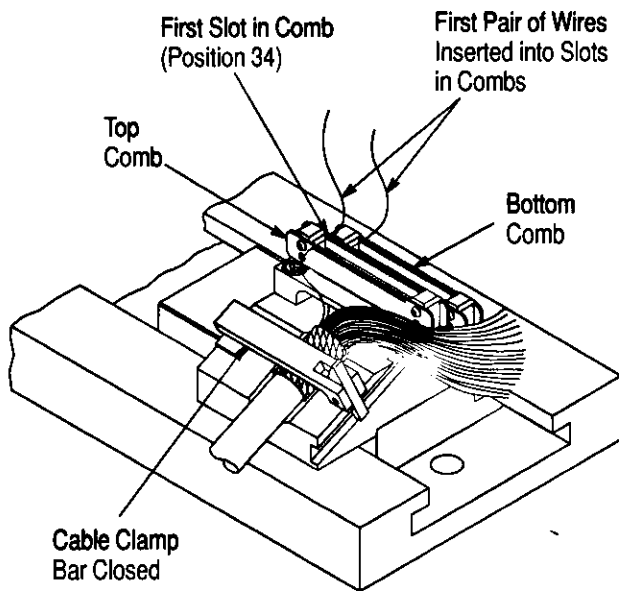

Figure 5
5. Untwist the first pair of wires and insert the wires into the proper slots of the wire combs according to applicable wiring diagram. Make sure that each wire is pushed in far enough for the slot to grip the wire. Refer to Figure 5.
For cross-row applications, insert one wire of the twisted pair into the first slot in the top comb then take the other wire under the top comb and insert it into the first slot in the bottom comb. For in-line applications, insert wires into the bottom comb first, then the top comb. Refer to Figure 5.